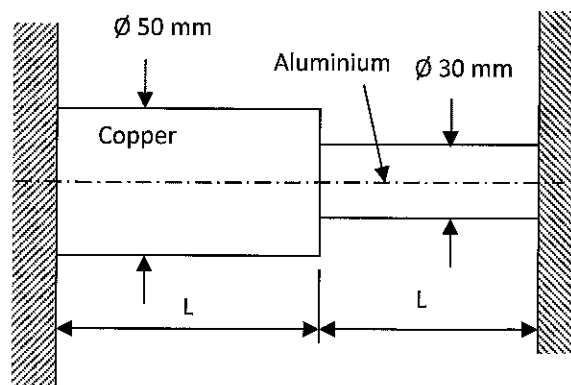

Figure 1(c)/ *Rajah 1(c)*
- (c) As shown in **Figure 1(c)**, a compound bar rigidly mounted on each end. Calculate the stress in each bar when the temperature in assembly is increases to 100°C .